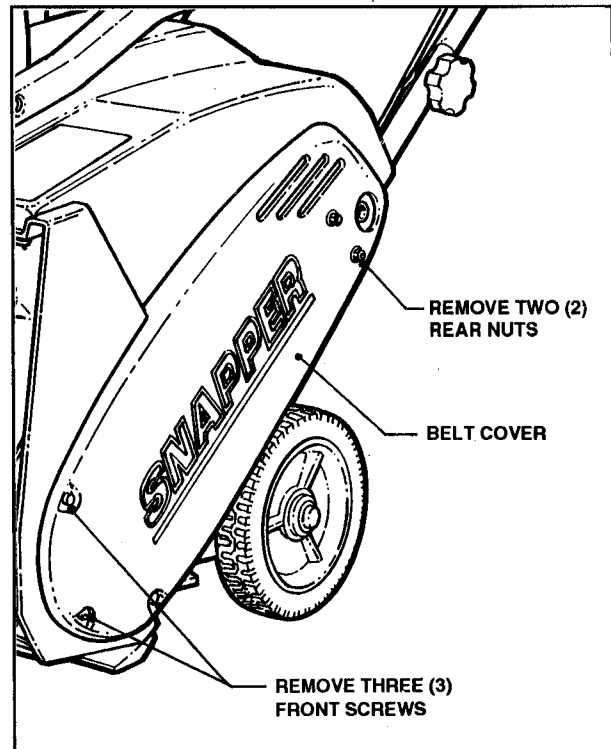

FIGURE 4.2
A. Remove Belt Cover. See Figure 4.2.